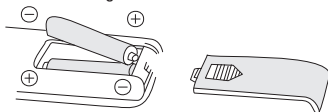

Fig 2
2. Insert the batteries, and make sure that the batteries are placed as shown in the Fig 2.
3. Remove the fuse carefully. Insert the tip of your tool into the fuse slot(close with the terminal), then pry the fuse gradually and slowly, but do not overexert. If you feel resistance, you can try it several times and pry the fuse little by little. When one side of the fuse has been released, then you can get the fuse out entirely.(Fig. 2)